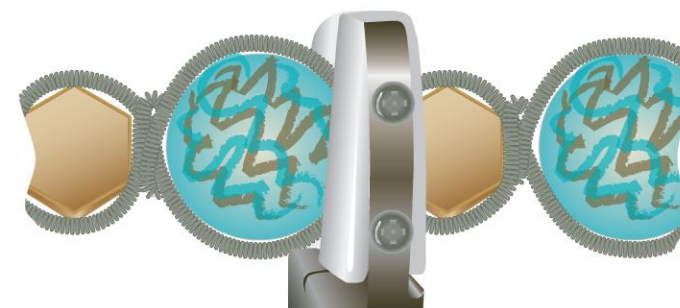

figure 7
- 1 5** Use nylon-jaw pliers to gently squeeze the coiling/wrapping in between each bead so the coiling lies flat (Figure 7).